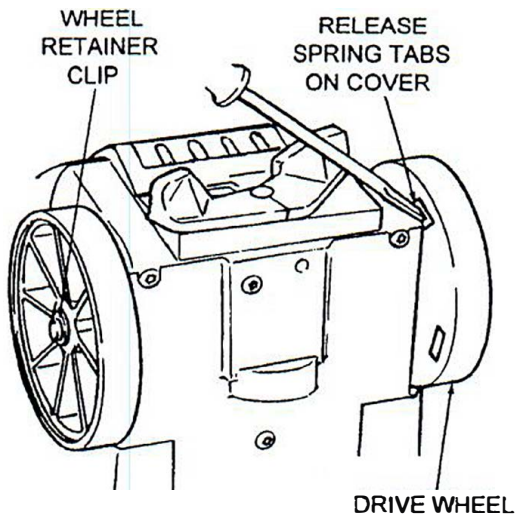

Figure 13. Drive Wheel Cover and Wheel Replacement
- A. *See Figure 13.* Insert a thin flat blade screwdriver through slots in back of wheel and gently twist to release spring tabs of wheel cover. Lift off wheel cover.